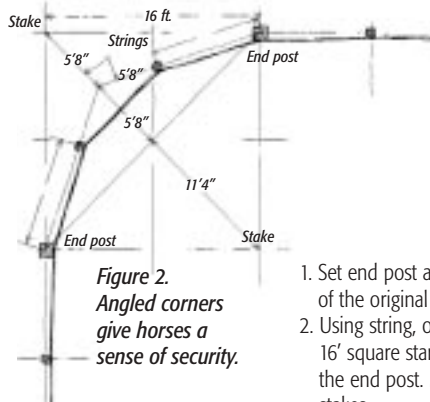

Figure 2. Angled corners give horses a sense of security.
4. Again using the string, draw a diagonal line from post to post. From the midpoint of this line (11' 4"), attach string to the corner of the square. Attach another string from the midpoint of this line (5' 8") to the center of each end post (see fig. 2).